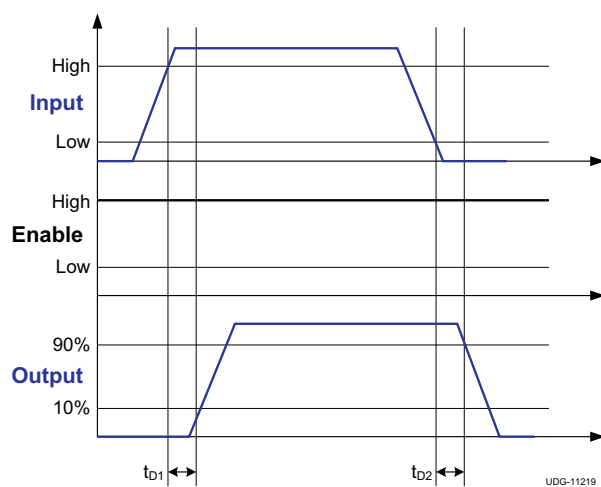

Figure 2. Non-Inverting Input-Driver Operation
(1) Ensured by design.
(2) R_{OH} represents on-resistance of only the P-Channel MOSFET device in the pullup structure of the UCC27524A-Q1 output stage.
(3) See the timing diagrams in Figure 1, Figure 2 and